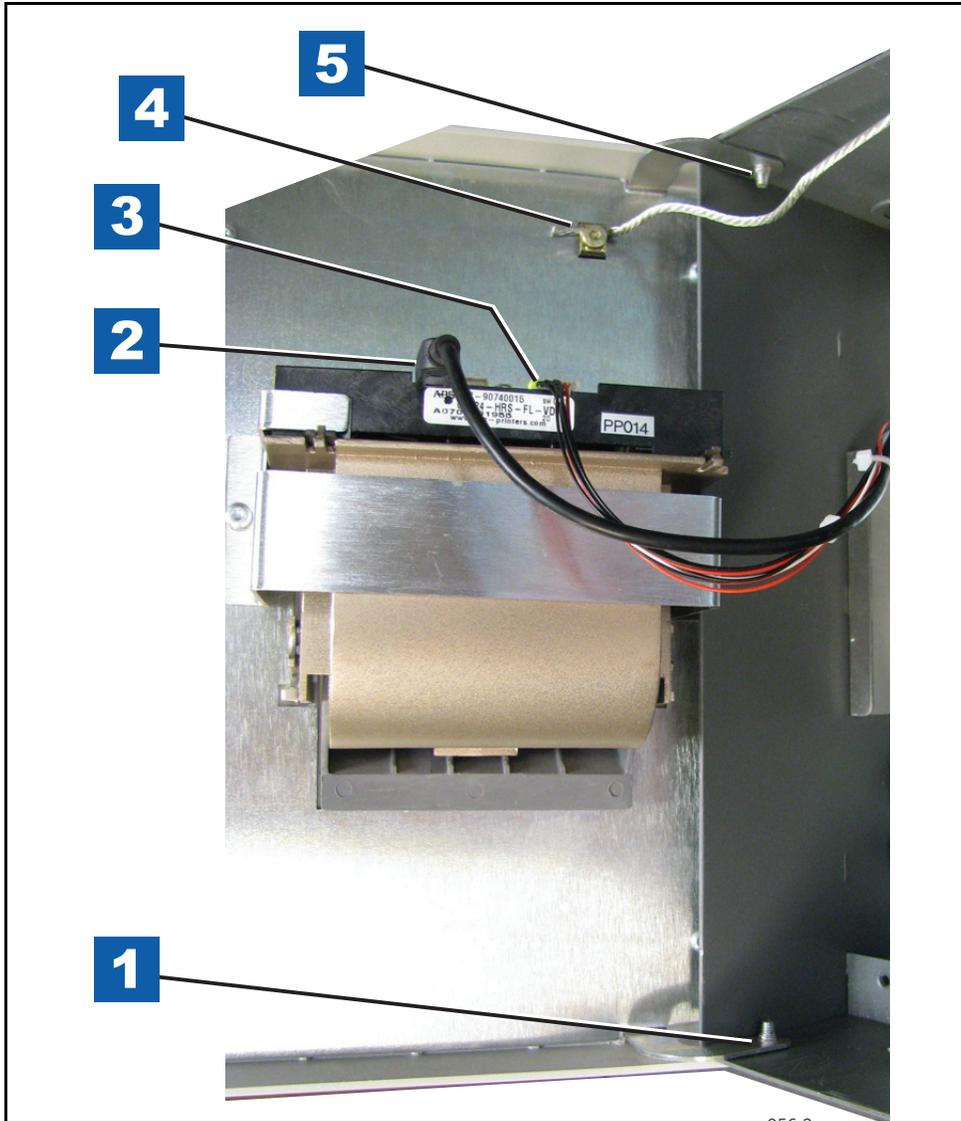

Figure 4. Printer door cables
3. Disconnect grounding braid from the saddle clamp on the inside of the Printer door (see Figure 4).
### Legend for numbered boxes in Figure 4
7. Attach the grounding braid to the saddle clamp on the inside of the Printer door (see Figure 4).
8. Connect the USB cable and the power cable to the printer (see Figure 4).